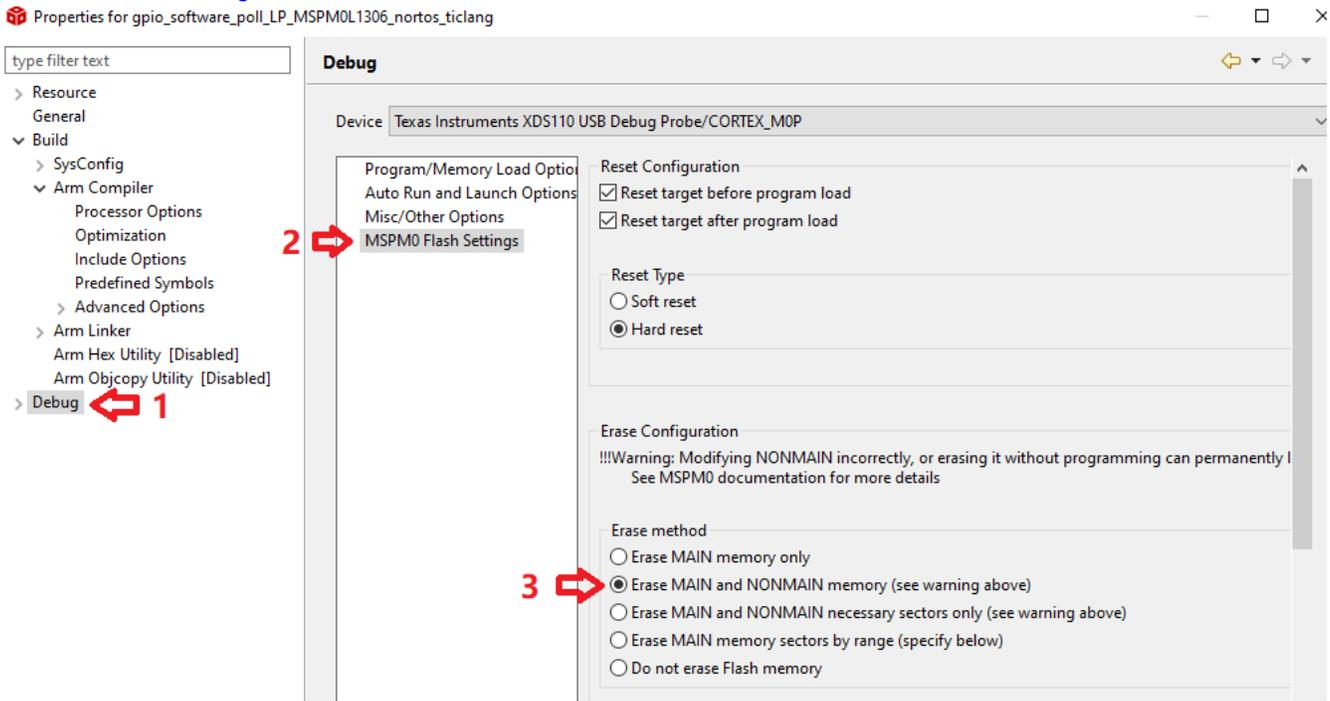

Figure 3-4. Enable NON-MAIN Flash Erase
- Build the project in Code Composer Studio™ (CCS) or IAR or Keil and then download the code into flash. The important thing to download the image is to enable NON-MAIN flash erase. For example in CCS to enable this in Figure 3-4.